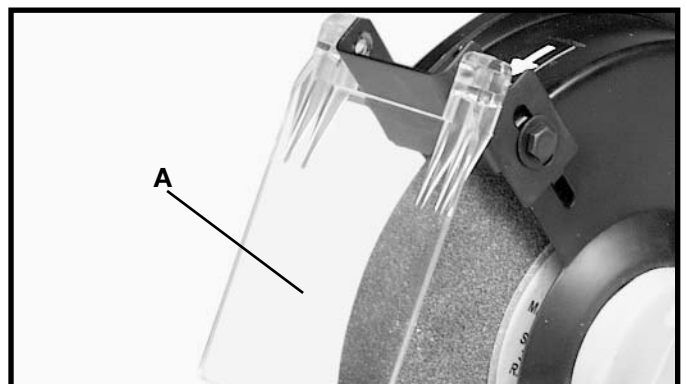

Fig. 6
1. Place the eye shield (A) on the spark guard as shown in Fig. 6.